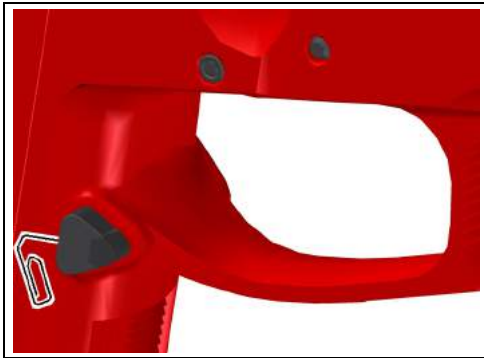

Fig. 6, Releasing the magazine catch stop (illustration without trigger)
2. Push the straightened end of a paper clip into the opening of the magazine catch. The sear of the magazine catch stop **25** is released (see Fig. 6).